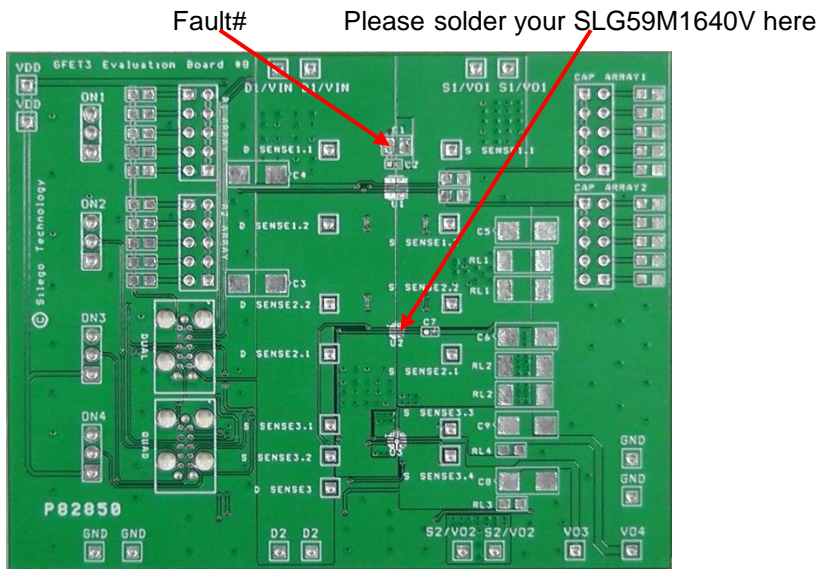

Figure 3. SLG59M1640V Evaluation Test Board
2.2. The D/VIN and S/VOUT pins carry significant current. Please note how the D/VIN and S/VOUT pads are placed directly on the power planes in Figure 3, which minimizes the RDS(ON) associated with long, narrow traces. The D/VIN and S/VOUT pins dissipate most of the heat generated during high-load current condition. The layout shown in Figure 3 is illustrating a proper solution for heat to transfer as efficiently as possible out of the device.